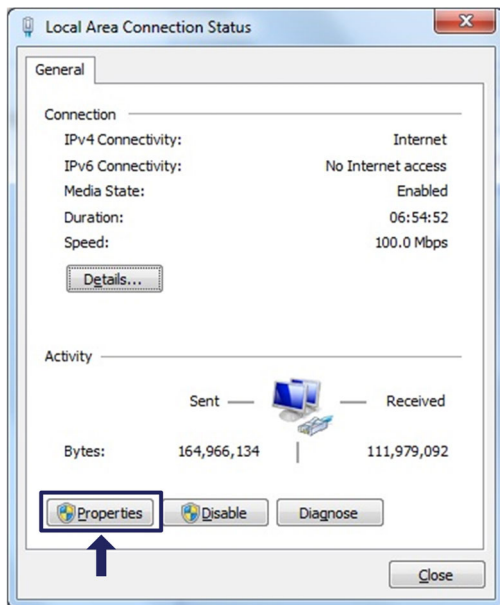

Fig. 3.7 Network properties
- ▶ Select the LAN connection. The window displayed in Fig. 3.7 will appear. Click on **Properties**.